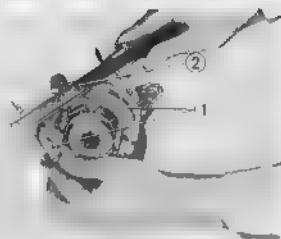

Fig. 4.90 Measuring brake lining
4. Check the brake shoes (Fig. 4.90)